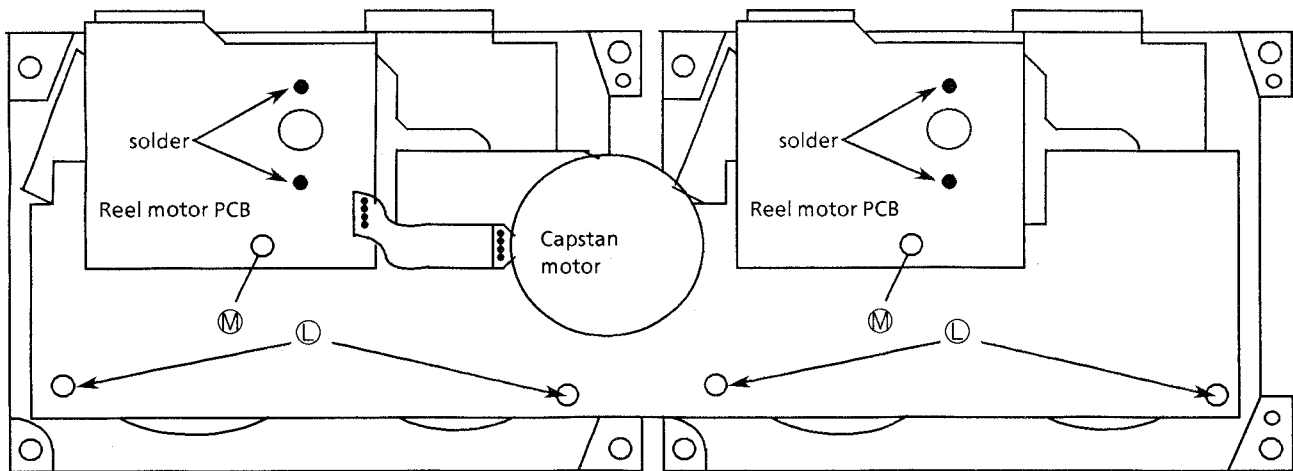

Fig. 9 Rear view of the cassette mechanism
- (1) Remove the mechanism assembly.
- (2) Remove the mechanism controller PC Board.
- (3) Remove the screws  $\textcircled{M}$  fixing the reel motor PC Boards (Fig.9).
- (4) Unsolder the reel motor terminals.
- (5) Remove the PC Board.
- (3) Remove the reel motor PC Boards.
- (4) Remove the 4 screws  $\textcircled{L}$  fixing the bracket on which the capstan motor is installed (Fig. 9).
- (5) Remove the bracket and the belts.
- (6) Remove the flywheel .
- (3) Remove the reel motor PC Board.
- (4) Remove the 4 screws  $\textcircled{L}$  fixing the bracket (Fig. 9).
- (5) Release the hooks fixing the bracket and remove the capstan motor with the bracket.
- (6) Remove the 2 screws fixing the motor on the bracket and remove the motor from the bracket.